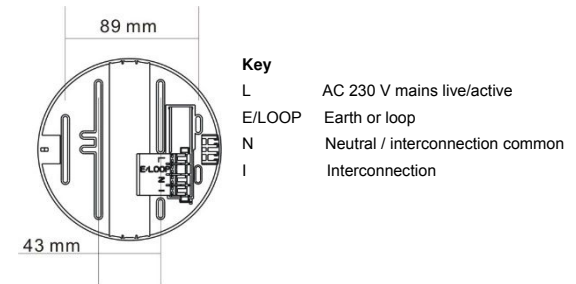

Fig. 6 – Mains wiring terminals and mounting slots
6. Open the terminal cover to access the terminal screws and install the wiring as shown in Fig. 6.